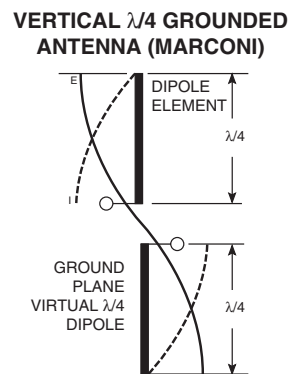

Figure 26: Dipole Antenna
4. In many antenna designs, particularly $\frac{1}{4}$ -wave whips, the ground plane acts as a counterpoise, forming, in essence, a $\frac{1}{2}$ -wave dipole (Figure 26). For this reason, adequate ground plane area is essential. The ground plane can be a metal case or ground-fill areas on a circuit board. Ideally, it should have a surface area less than or equal to the overall length of the $\frac{1}{4}$ -wave radiating element. This is often not practical due to size and configuration constraints. In these instances,